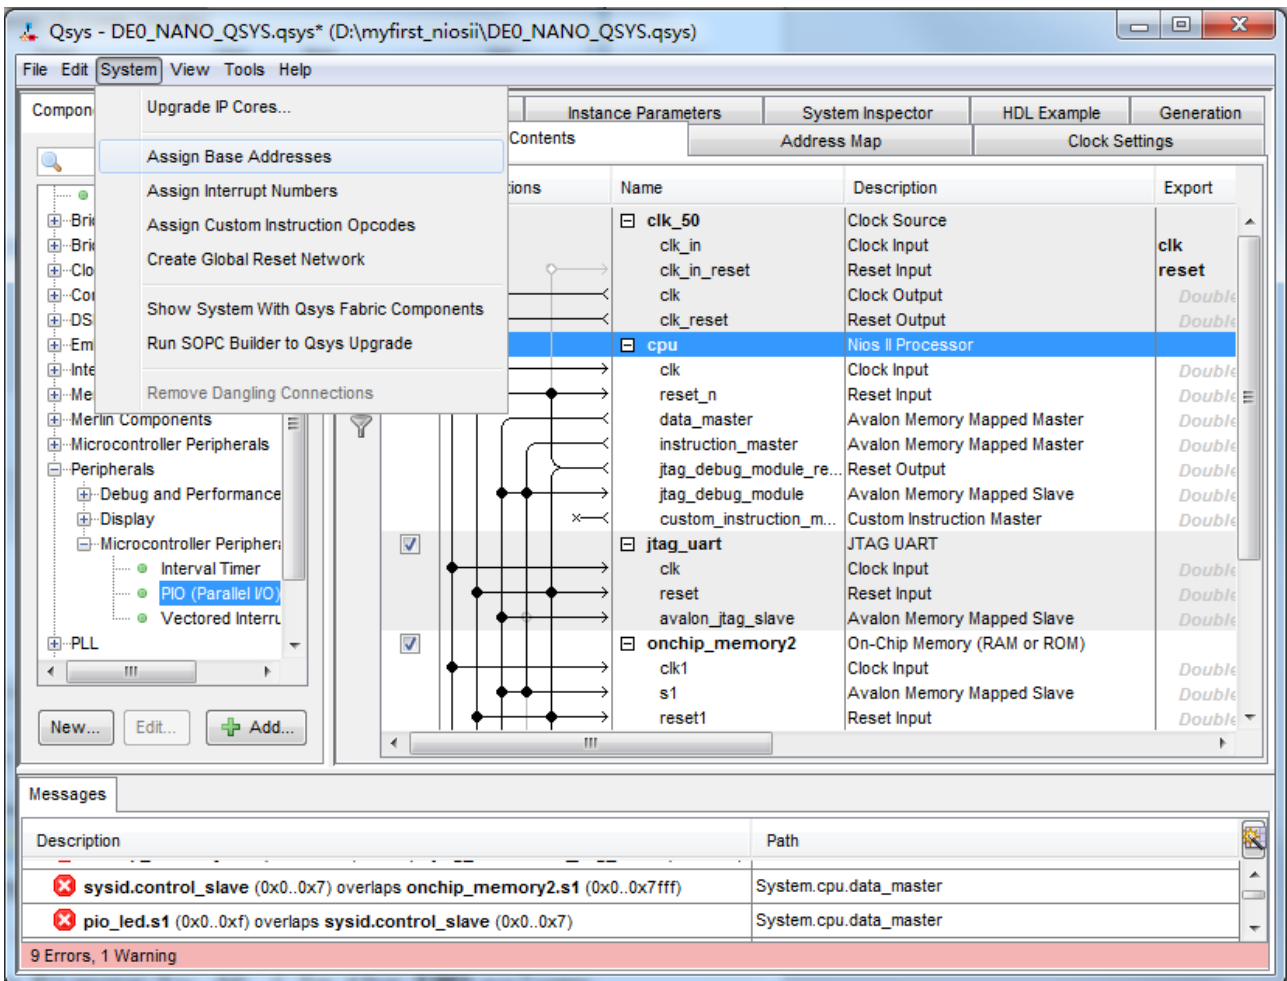
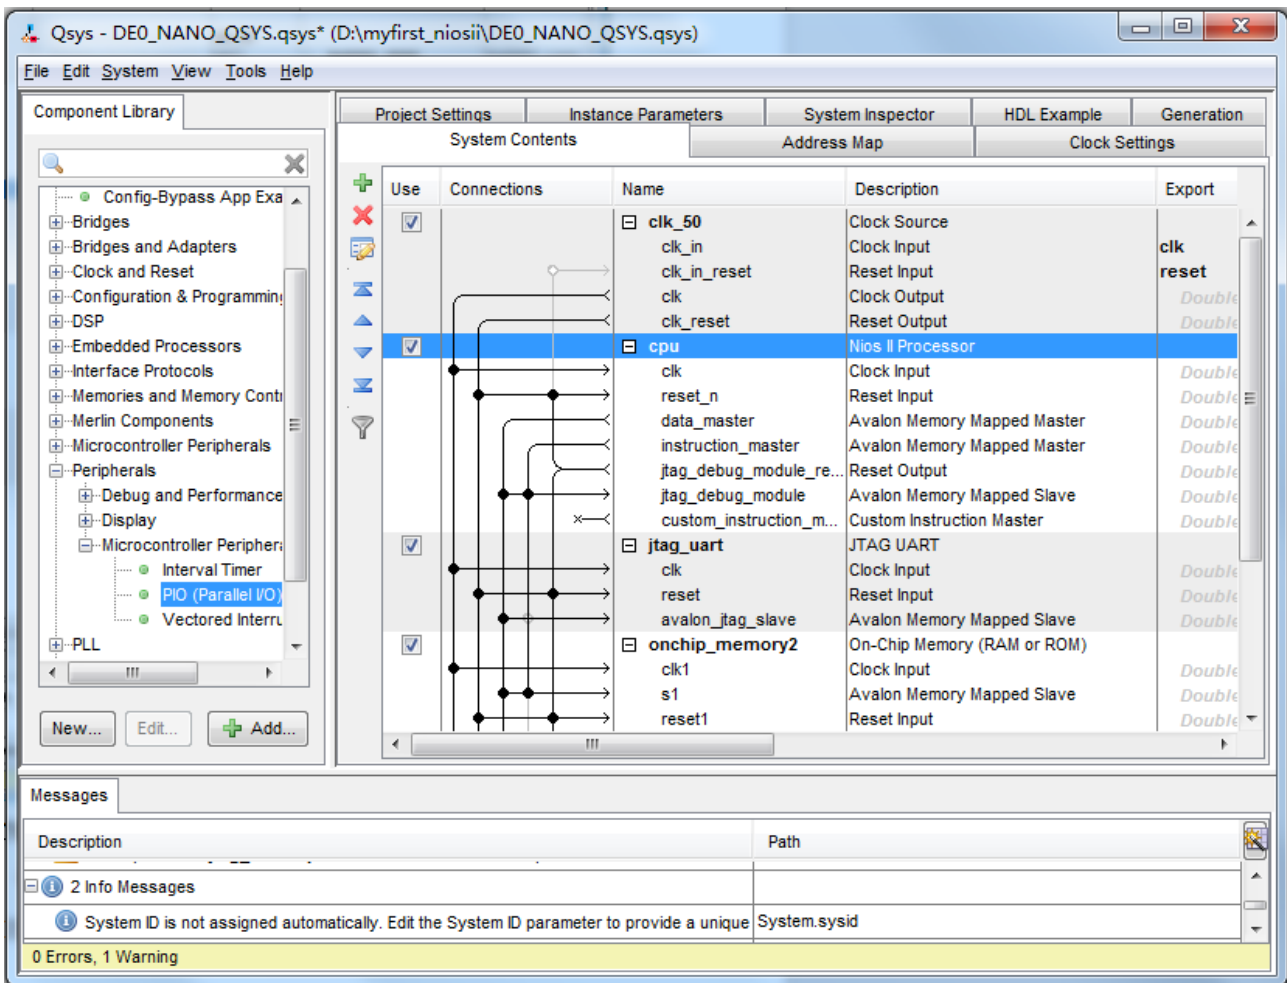

Figure 1-43 Assign Base Addresses
Figure 1-44 No Errors
28. Choose System > Assign Base Addresses as shown in Figure 1-43. After that, you will find that there is no error in the message window as shown in Figure 1-44.